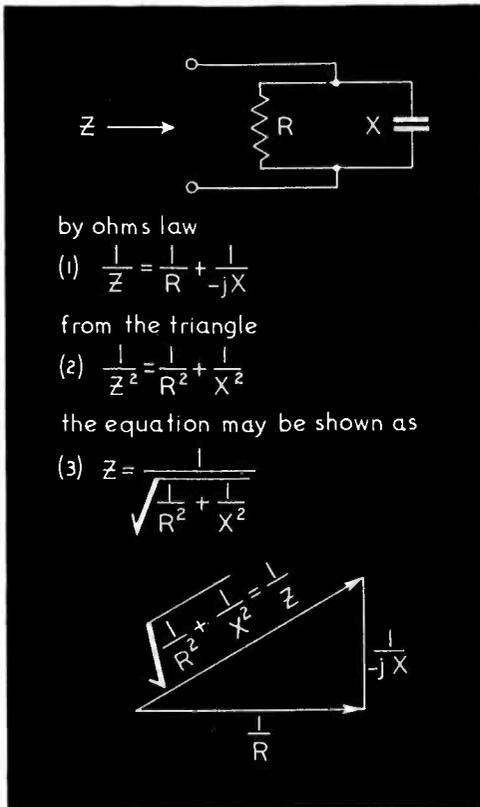

Figure 1
The second scale (B) applies to problems met when parallel resistors and condensers or inductances are used. The two elements beneath the radical must be at right angles in an electrical problem as shown in Figure 1.